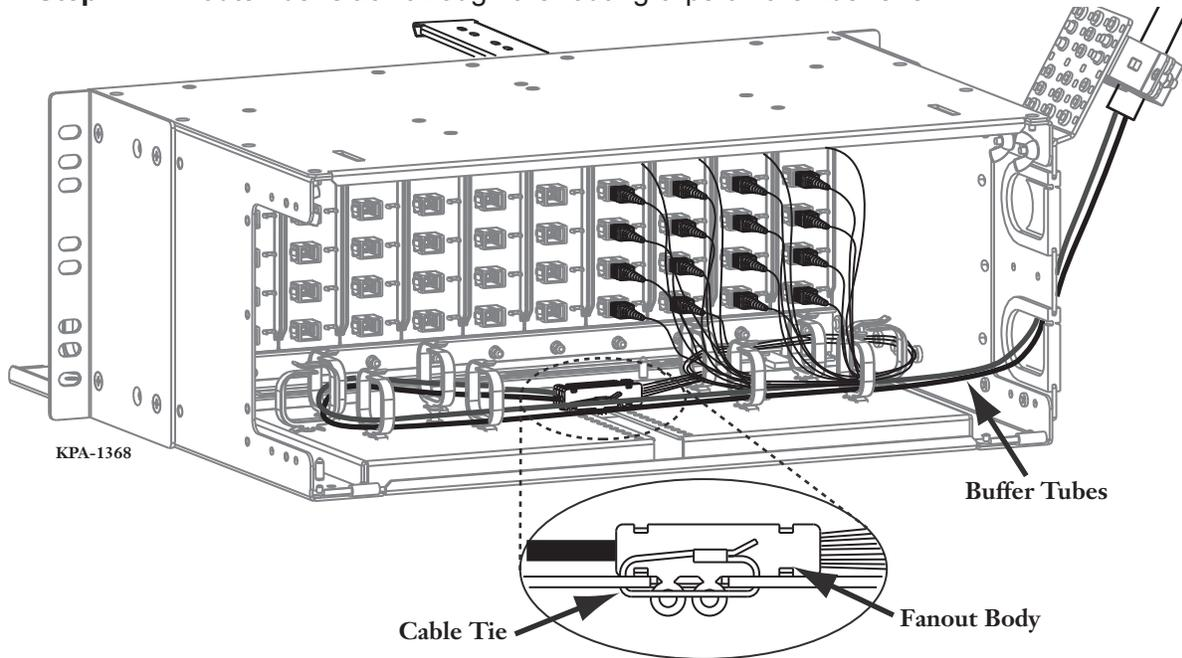

Figure 10
- Step 2:** Feed the fan-out body and connectors through the entry grommet (Figure 10).
- Step 3:** Slide the fan-out body into the cut-out in the fiber shelf with the rings on the fan-out body beneath the shelf. Secure fan-out with a cable tie (Figure 10 inset).